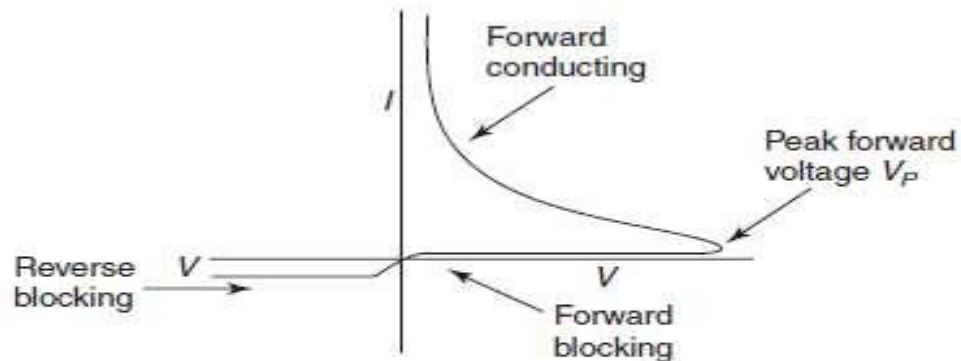

Figure 8-2 $I-V$ characteristics of a two terminal $p-n-p-n$ device
- The forward-bias condition and reverse-bias condition illustrate the conducting state and the reverse blocking state respectively. Based on these two states a typical $I-V$ characteristic of the SCR is shown in Fig. 8-2.
At a critical peak forward voltage V_p , the SCR switches from the blocking state to the conducting state, as shown in Fig. 8-2.